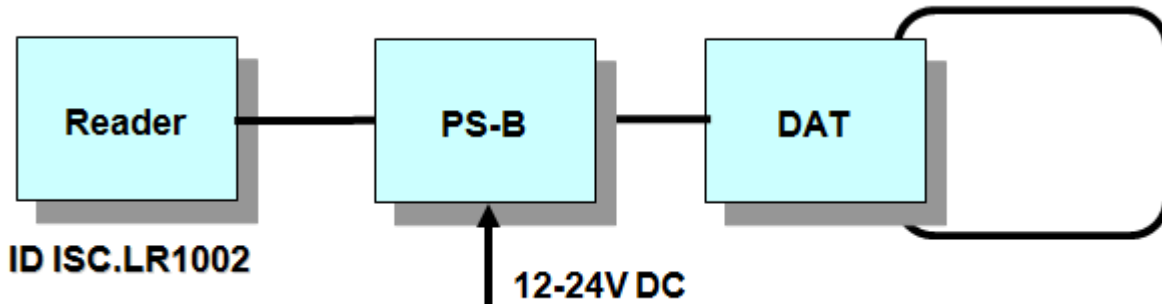

Figure 6: DC supply of a ID ISC.DAT using a power splitter ID ISC.ANT-PS-B
- To prevent external coupled noise, the antenna cable must be fitted with the included EMC ferrite ring core $\varnothing 28 \text{ mm} \times 20 \text{ mm}$. The antenna line must be wound around the ring core for at least 4 turns. The distance between the Reader termination and the ring core should be maximum 10 cm (see Figure 6).